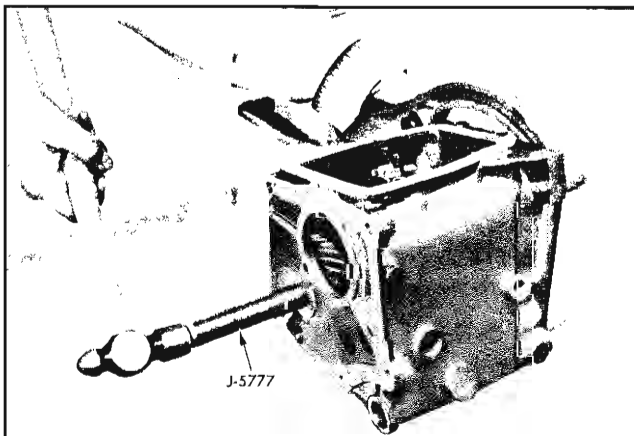

Fig. 7-25 Removing Counter Gear Shaft
16. Remove counter gear and thrust washers by driving counter gear shaft out from rear of case with tool J-5777 (Fig. 7-25).